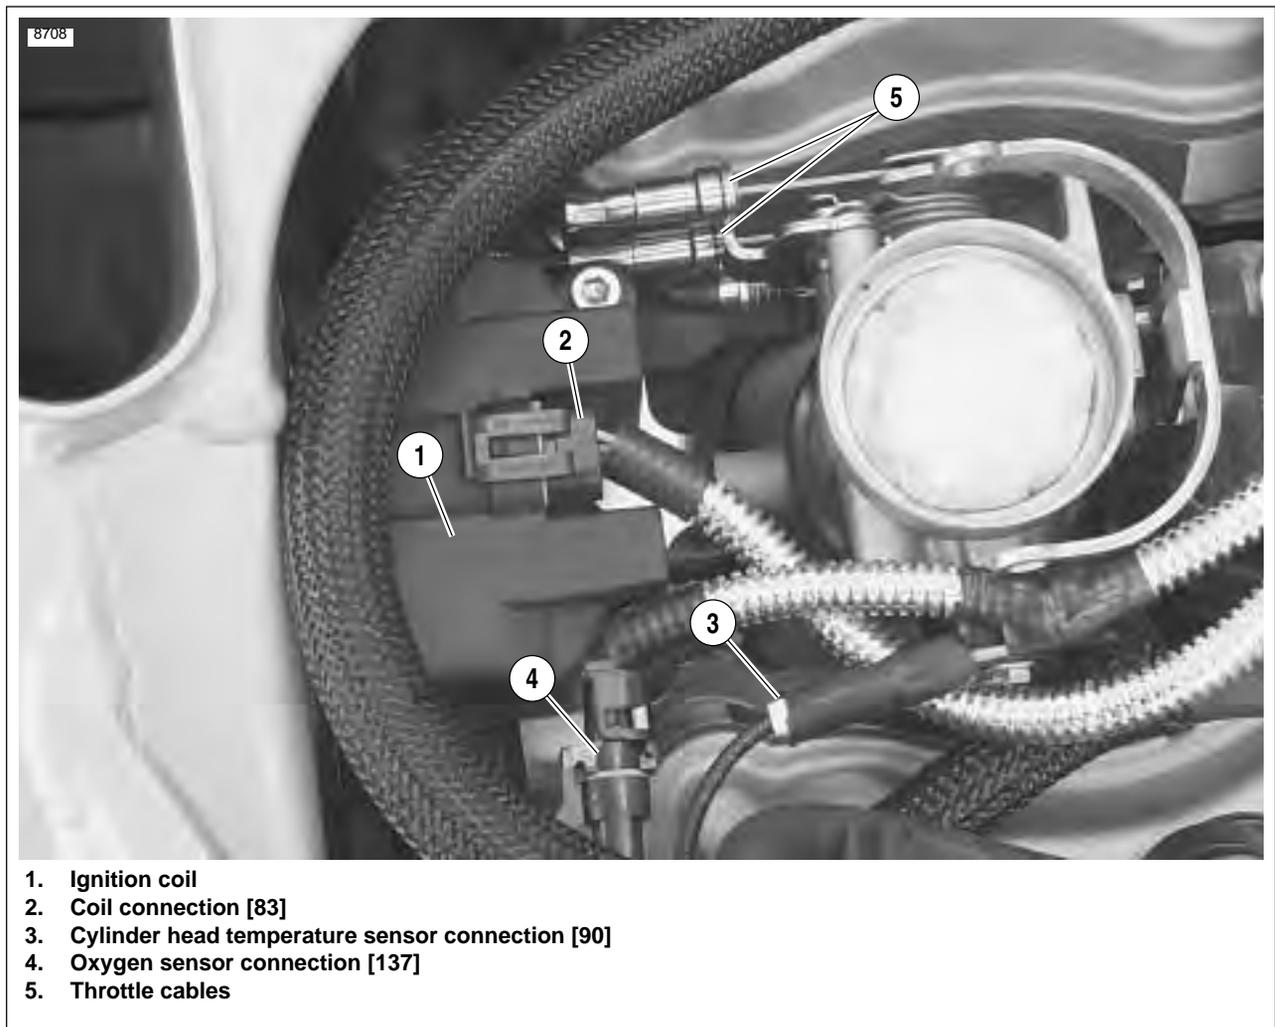

Figure 3-14. Electrical Connections and Throttle Cables (Typical)
18. See Figure 3-14. Connect throttle cables from induction module/throttle body.
20. See Figure 3-14. Install the ignition coil and connect [83] and tighten fasteners to 120-144 **in-lbs** (13.6-16.3 Nm).